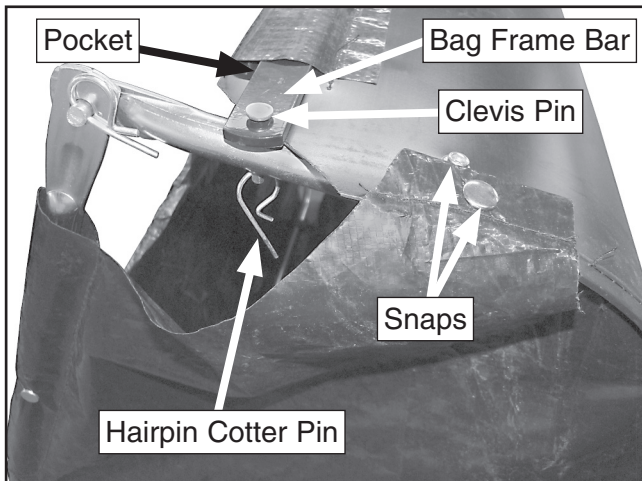

Figure 14. Bag frame bar.
- Connect the snaps, as shown in **Figure 14**, then slide the bag frame bar into the pocket in the leaf bag and secure it with two M6 x 33 clevis pins and two 2mm hairpin cotter pins.